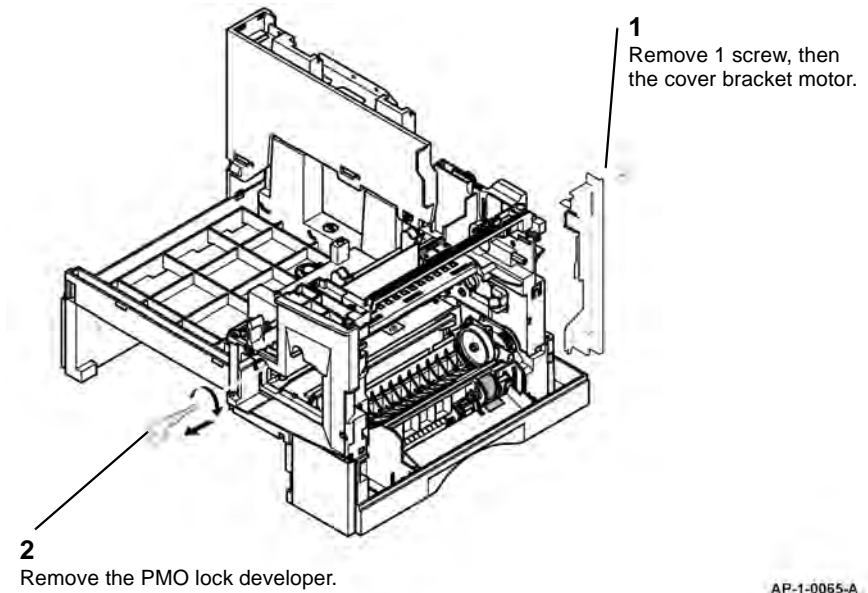

Figure 2 Cover bracket motor removal
9. Remove the cover bracket motor and PMO lock developer, Figure 2.